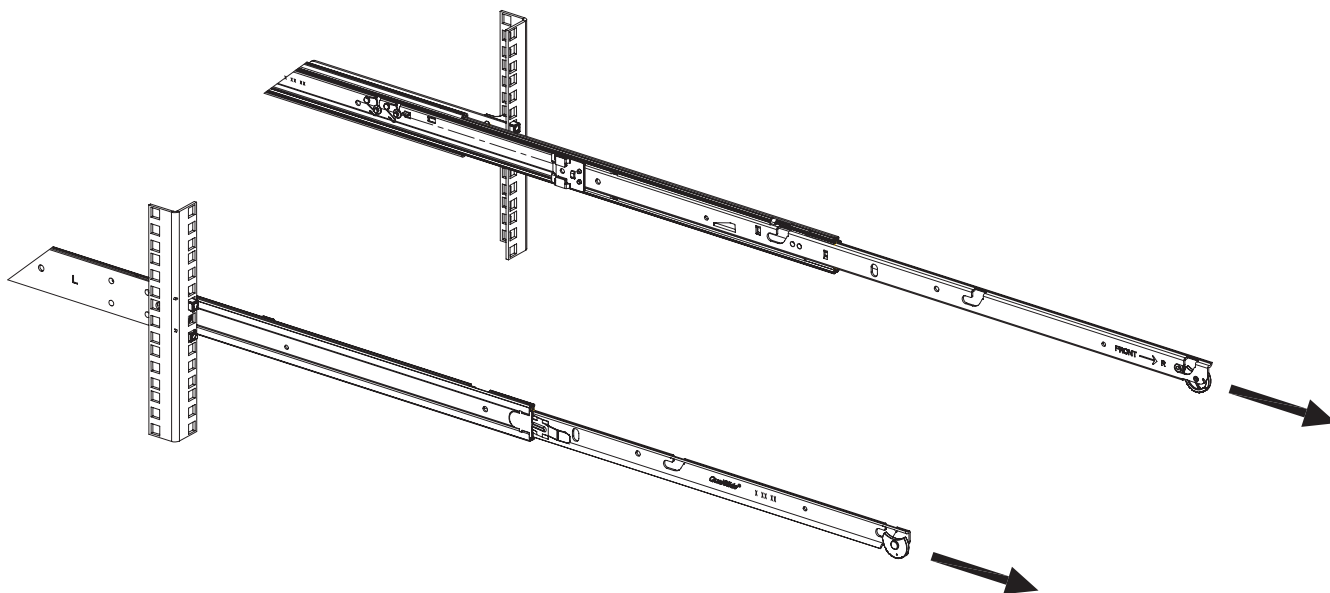

Figure 2-3 Extending ISS3124-RP2 Rail Slides Example
2. Fully extend the rail slides as shown in the example in Figure 2-3.